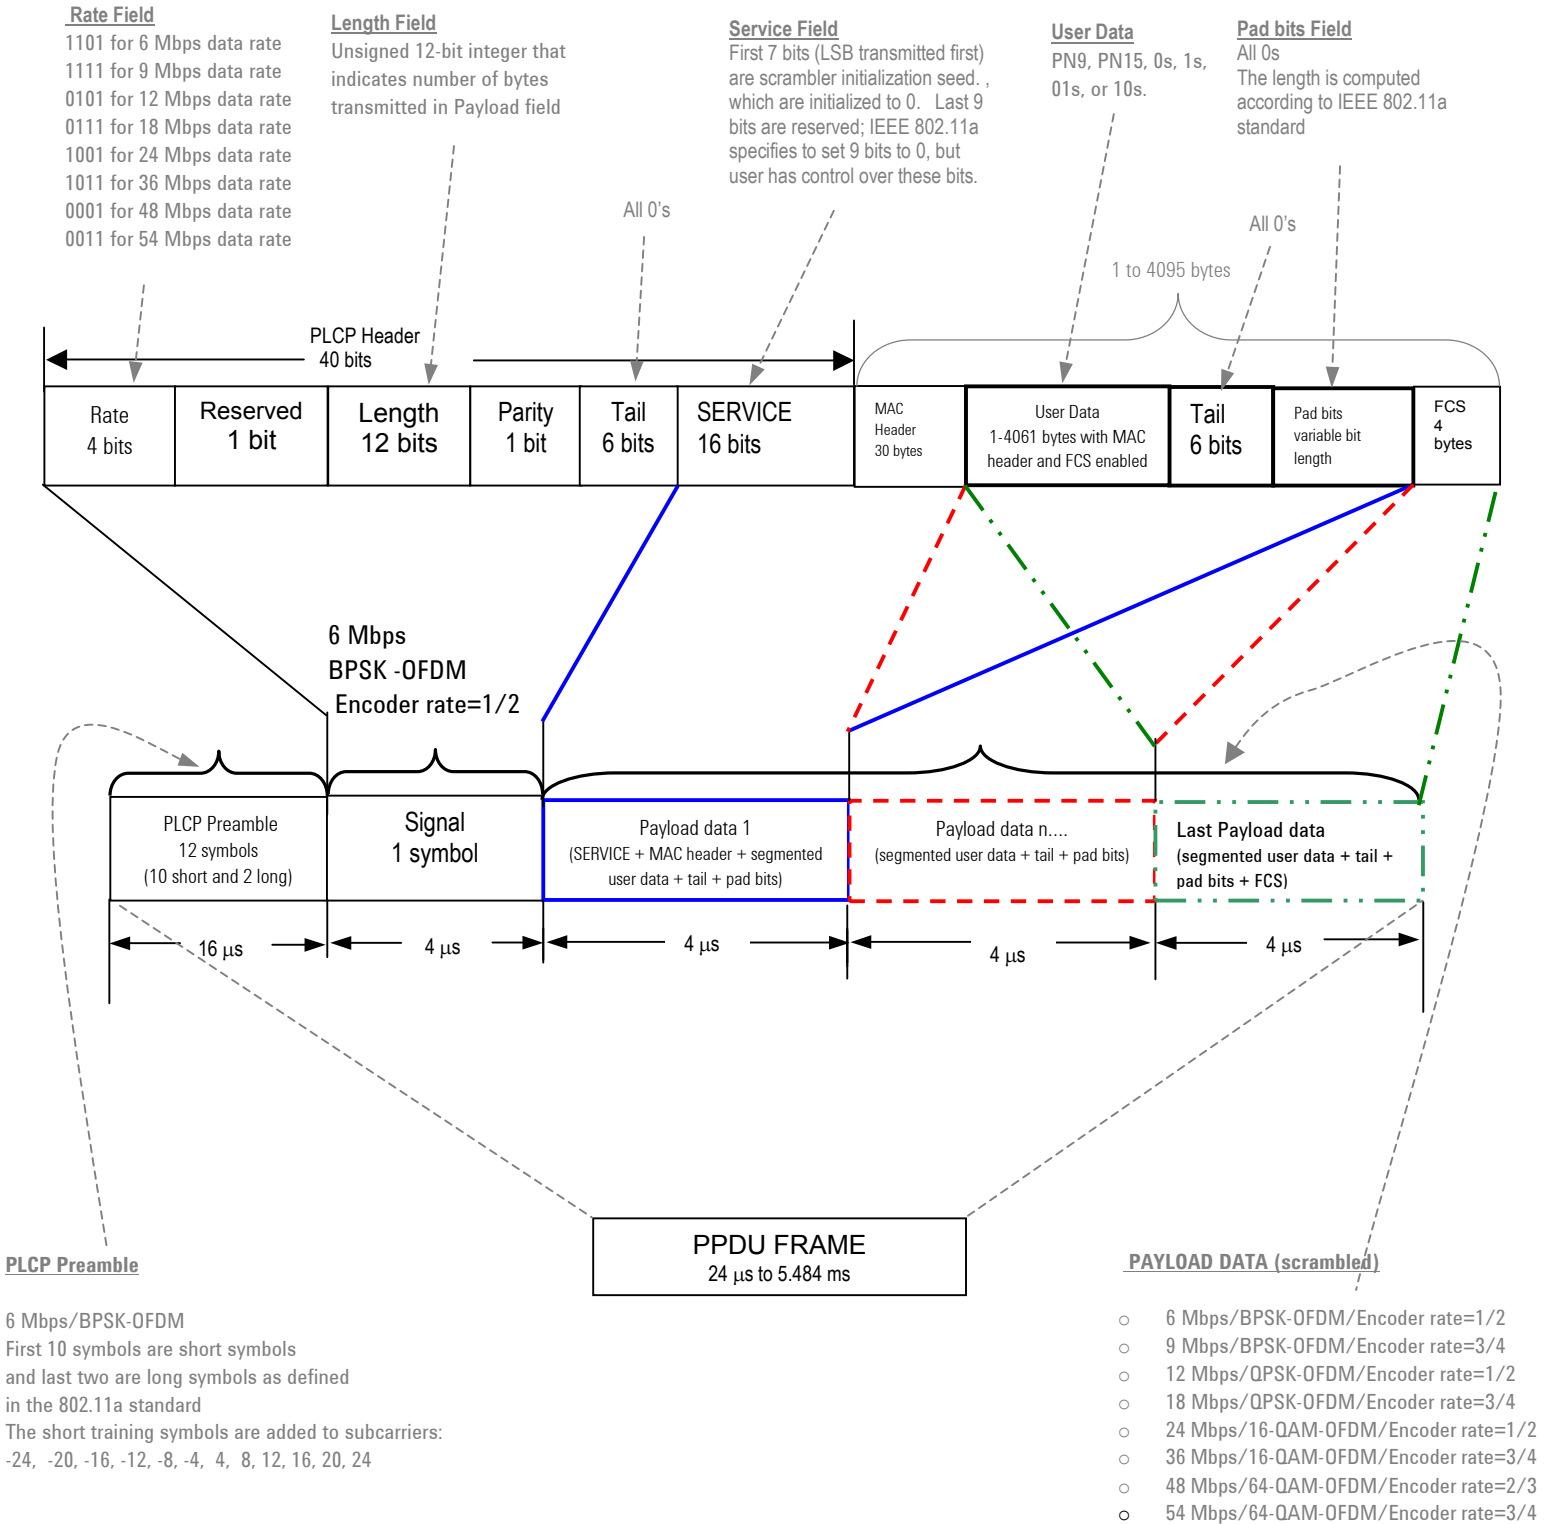

Figure 10: Signal Studio-802.11a Framed Signal
The user does have the capability to add a MAC header and FCS to the data payload. This is useful if the user needs to add addresses or other MAC fields in the MAC header to append to the payload data, see Figure 10. Also the FCS can be used to perform packet error ratio tests (PER).
The 802.11a burst has four distinct regions. The preamble contains two of those regions. The preamble is BPSK modulated at 6 Mbps. The preamble contains no channel coding, and is not scrambled. The first region of the preamble consists of a short preamble. The short preamble contains 10 short symbols assigned to subcarriers -24, -20, -16, -12, -8, -4, 4, 8, 12, 16, 20, 24. The second part of the preamble contains 2 long symbols that are assigned to all 52 subcarriers. The third region of the packet is the Signal (header), which consists of one symbol assigned to all 52 subcarriers. This symbol is BPSK modulated at 6 Mbps and is encoded at a 1/2 rate. The Signal is not scrambled. The last region of the packet consists of the Service field and the data payload. This region is scrambled. The data rate, encoding rate, and modulation varies, see Figure 10. Notice that guard intervals (GI) are added to the long preamble, header (Signal field), and the Service and payload data.
Figure 10 shows the detailed diagram of the Signal Studio-802.11a framing.